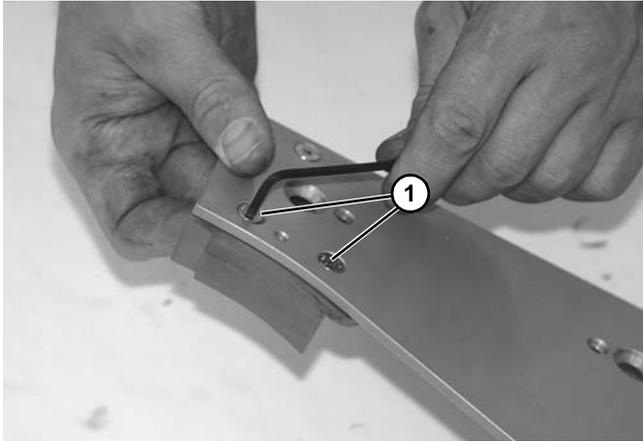

Figure 132
2. Remove two socket head screws (Figure 132, item 1).